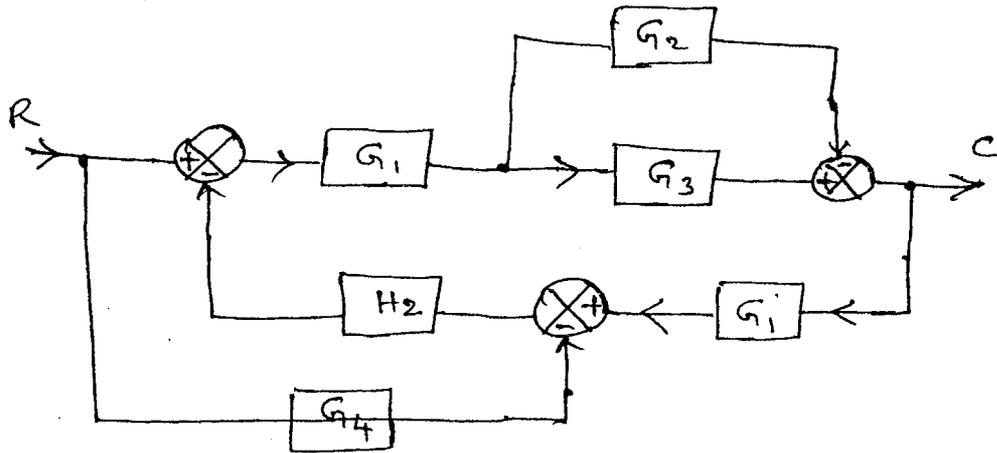

Fig. Q. 14 (a)
- (b) (i) Explain the operation of variable reluctance motor. (8)
- (ii) Explain the operation of hybrid stepper motor. (8)
14. (a) Obtain the closed loop transfer function of the system shown in Fig. Q. 14 (a) using the block diagram reduction technique.
- (b) Draw the signal flow graph and evaluate the closed loop transfer function of the system shown in Fig. Q. 14 (a) above.